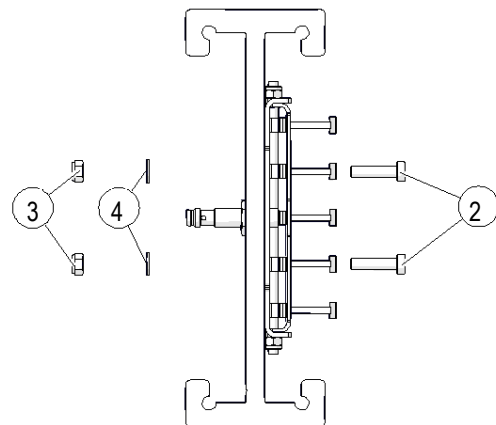

Fig. 8: Mount the sliding contact sensor unit
- Screw the sliding contact sensor unit to the EMS-profile using head cap screw DIN7984 - M5x20 (item 2), washer DIN 125 (item 4) and lock nut DIN985 (item 3) (see Fig. 8).